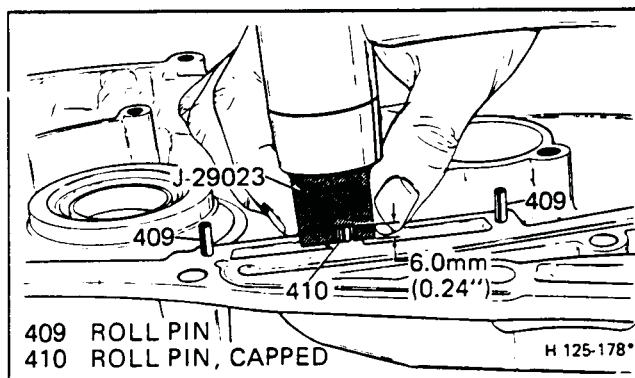
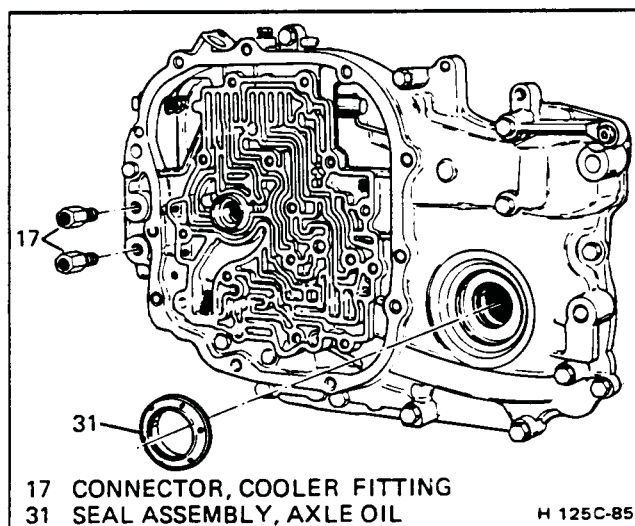

Figure 82 Setting Center Roll Pin Height
Figure 84 Left Hand Axle Seal &amp; Cooler Fittings
**Disassemble (Figure 84)**
- Cooler fittings (17) from case cover
- Cooler fittings (17) into case cover – 38 N·m (23 ft. lbs.)
- Electrical connector (408) for damage
- Manual valve (406) for damage – must slide freely in the bore
- Thrust washer (414) for damage
**Disassemble (Figure 82)**
- Element (412)
- Element plate (411)
**Assemble (Figure 82 and 83)**
- Install the element plate (411)
- Install the element (412)
- Install the washers (413) – use J-29023 to set the washer height.
**Inspect (Figure 84)**
- Left hand axle seal (31) for damage